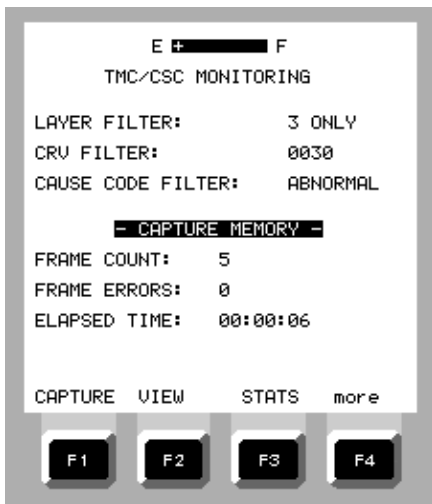

Figure 2-116. TMC / CSC MONITORING Menu
- a. TMC / CSC CHANNEL - Allows capture and display of layers (protocol stacks), call reference value (CRV) filtering, and cause code filtering (Figure 2-116).
GR-303 testing begins with the TMC / CSC MONITORING menu (Figure 2-116) where layer, CRV (Call Reference Value), and cause code filtering are selected. The test set is designed to allow the user to filter (select) specific data for capture and display on the VIEW CAPTURED DATA-CONDENSED or VIEW CAPTURED DATA-EXPANDED displays. Filters may be applied before or after the data is captured. Even if pre-capture filtering selects all messages, filters may be reset afterwards (post-capture) to narrow the range of messages actually displayed.